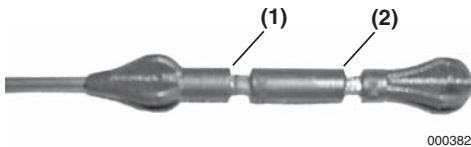

Figure 4
3. Remove dipstick. The oil level should be between upper (**Figure 4, (1)**) and lower lines (**Figure 4, (2)**) on the dipstick.